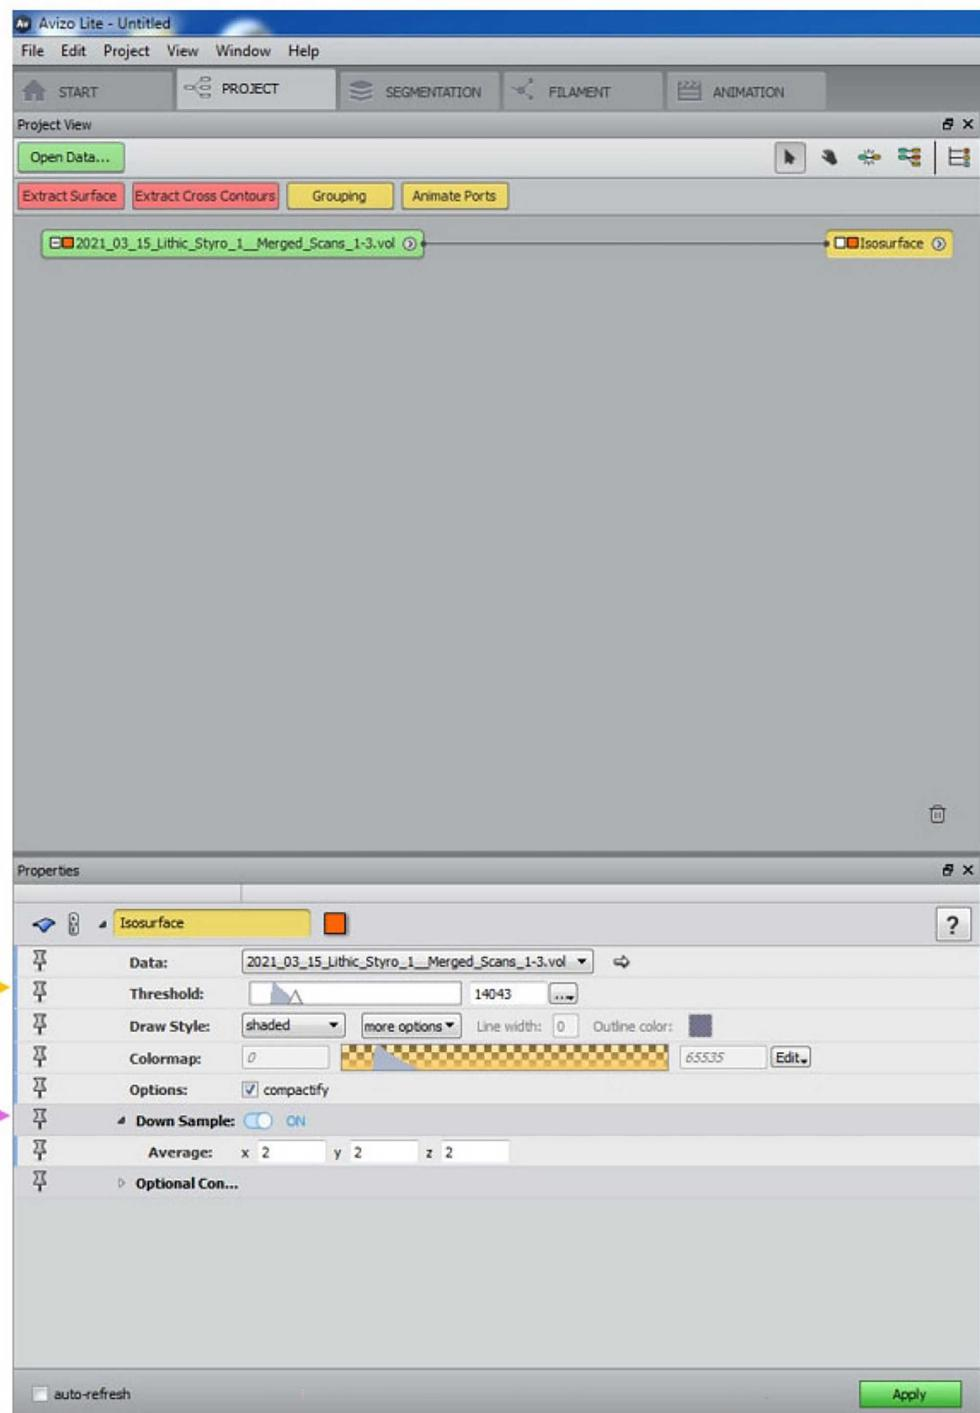

Fig. 12: Project view with generated ‘Isosurface’ label. Parameters for the isosurface can be adjusted in the ‘Properties’ panel below.
- 21.2 Click on the newly generated 'Isosurface' label (Fig. 12) and choose a 'Threshold' value (yellow arrow in Fig. 12) that separates the artefacts from the surrounding air, Styrofoam etc.
Enable and use 'Down Sample' (pink arrow in Fig. 12) to run a fast isosurface test extraction